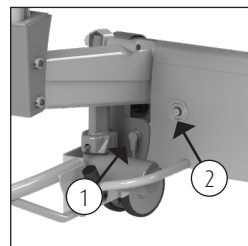

Figure 19. Emergency lowering button.
- Remove the plug from the manual control (1) (*See figure 19*).
- Press the emergency lowering button (2) (*See figure 19*).